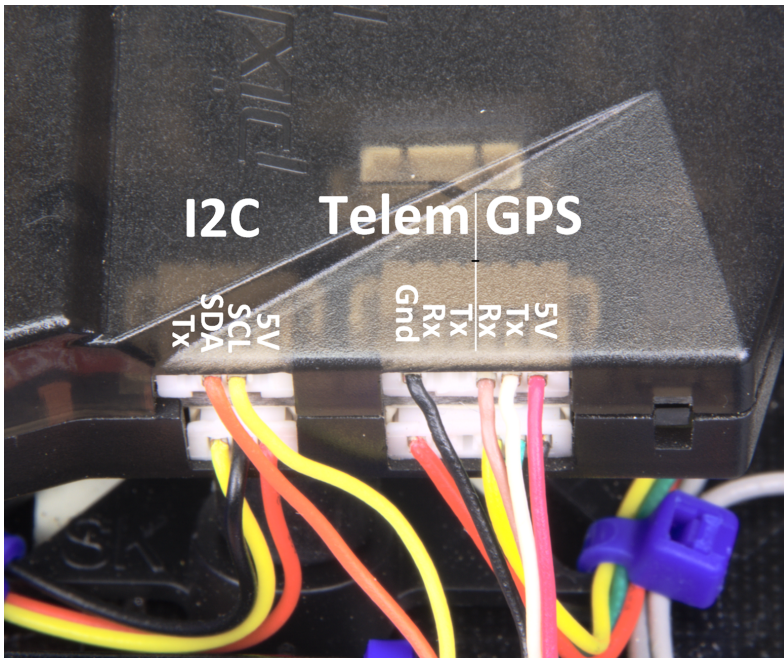

Figure 18-6 *The Pixhawk Lite uses shared GPS and telemetry ports*
Red almost always means positive—in this case, 5 volts—so looking at the pinout of the Pixhawk in Figure 18-6 you can see that the red and black wires must be swapped. I guessed at which wires were transmit (TX) and receive (RX), but I guessed wrong. When I powered up my flight controller, I got blinking lights on the GPS, but the controller didn't recognize it. You can check by connecting to your ground station software. If the GPS